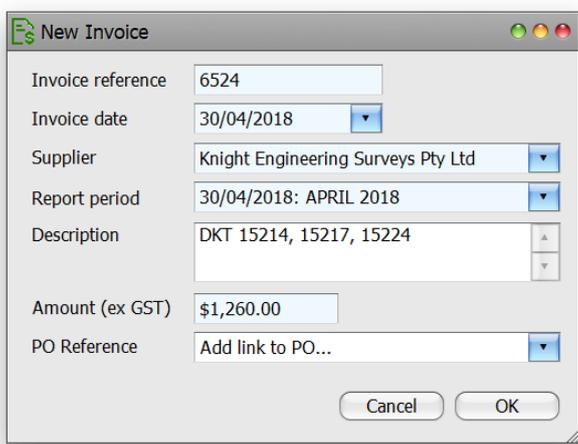

Figure 72 New Invoice dialog
3. The New Invoice dialog will now appear. Enter the first invoice details (Knight Engineering) from the Project Information Tutorial handout then click OK (Figure 72).